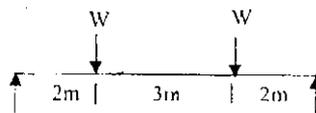

Fig. 1. (Qn. 6)
6. Draw the shear force and bending moment diagrams for the beam shown in fig. 1.